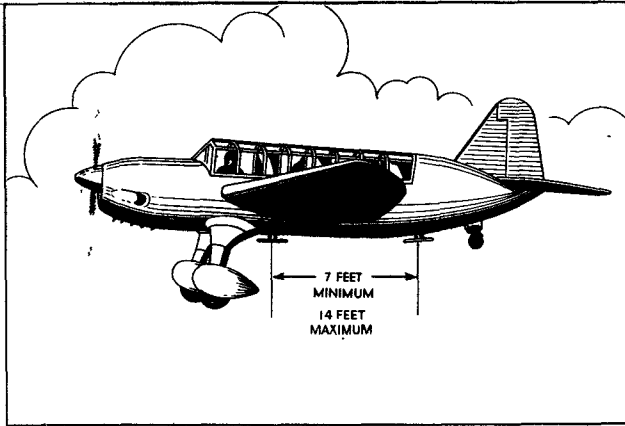

Figure 9—“In Line” Antenna Mounting—Under-Fuselage Arrangement
(1) The two antennas may be mounted on the under surface of the fuselage, with the horizontal members aligned on a common axis parallel to the axis of the fuselage, as shown in Figure 9. When the antennas are installed with a space of approximately seven feet between centers, no intermediate shielding is necessary. If a particular installation requires, the spacing may be increased to a maximum of 14 feet.
(2) In making an “in line” antenna installation, avoid proximity to objects (such as torpedoes, bombs, or floats) which will reflect an appreciable “feed through” signal from the transmitting antenna to the receiving antenna. In the case of torpedoes or bombs, it may be possible to align the antennas on a common